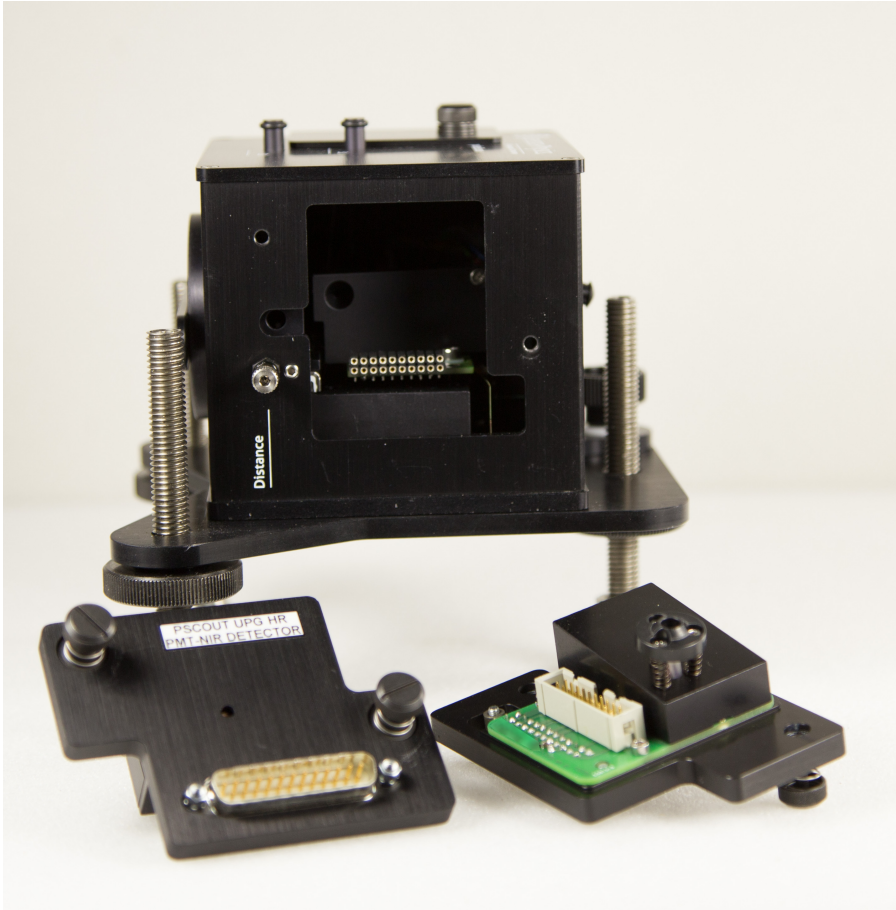

Figure 3.6.: *PulseScout2* Optical head with removed detector (front and back view)
4. Remove the detector unit by loosening the two thumb screws (see Figure 3.6 on page 21).